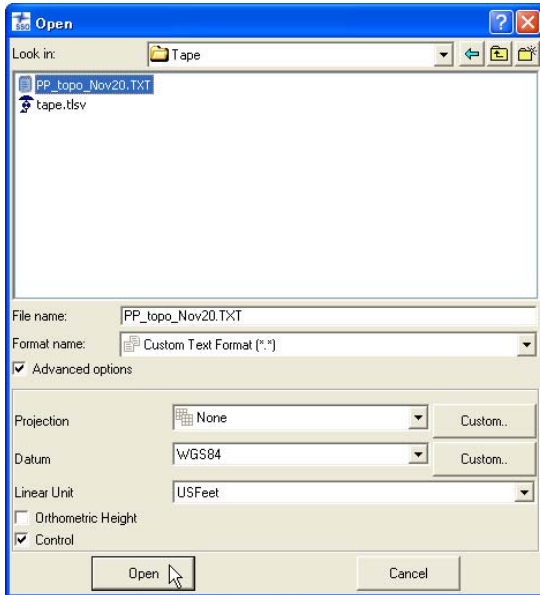

Figure 3-5. Import Custom Format File
4. Select the desired *Advanced* options (Figure 3-5 on page 3-8):
5. Click **Open** (or **Save** if exporting) to set custom format properties (Figure 3-5).